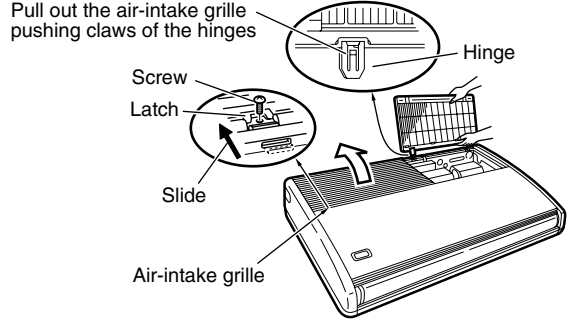
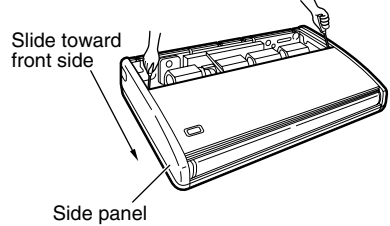

Fig. 3-41
Fig. 3-42
- (5) Before suspending the indoor unit, remove the 2 or 3 screws on the latch of the air-intake grilles, open the grilles, and remove them by pushing the claws of the hinges (Fig. 3-41). Then remove both side panels sliding them along the unit toward the front after removing the 2 attachment screws. (Fig. 3-42)